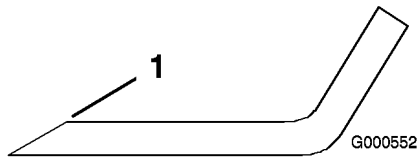
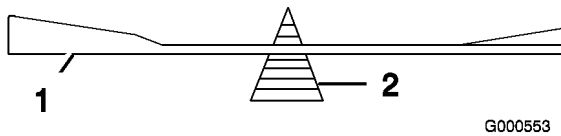

Figure 38
Figure 39
1. Use a file to sharpen the cutting edge at both ends of the blade (Figure 38). Maintain the original angle. The blade retains its balance if the same amount of material is removed from both cutting edges.
2. Check the balance of the blade by putting it on a blade balancer (Figure 39). If the blade stays in a horizontal position, the blade is balanced and can be used. If the blade is not balanced, file some metal off the end of the sail area only (Figure 38). Repeat this procedure until the blade is balanced.